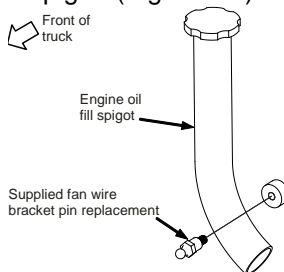

Figure 2.6
- ☐ Install the supplied fan wire bracket pin replacement. Install in the threaded boss on the front of the engine to the lower right of the engine oil fill spigot. (Figure 2.6)